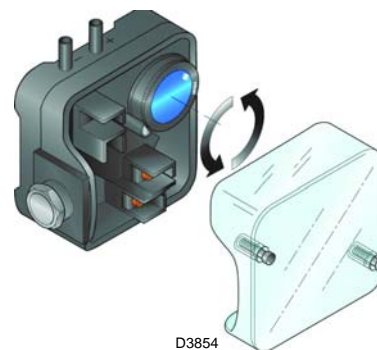

Fig. 25
- Adjust the air pressure switch (Fig. 25) to the start of the scale.
Adjust the air pressure switch after having performed all other burner adjustments with the air pressure switch set to the start of the scale (Fig. 25).